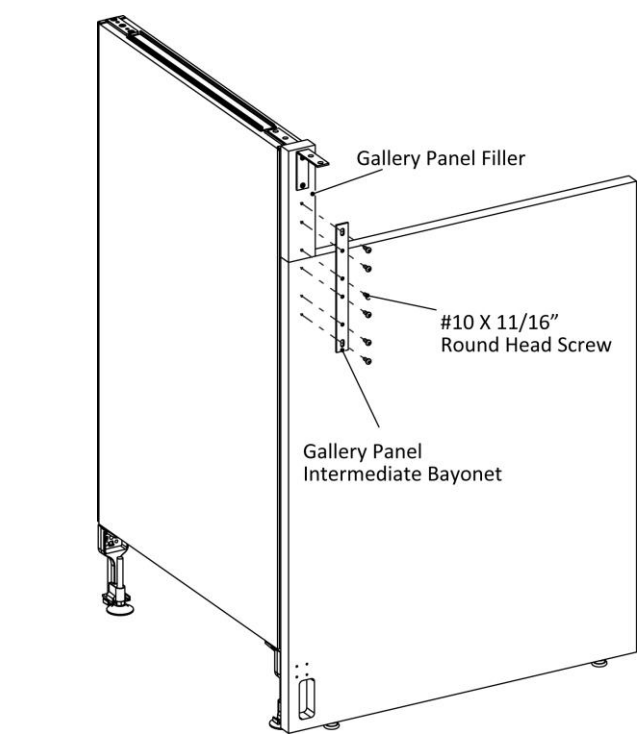

Figure 5
- Position and align the holes in the gallery panel intermediate bayonet to pre-drilled holes in the gallery panel filler and gallery panel, (Figure 5).